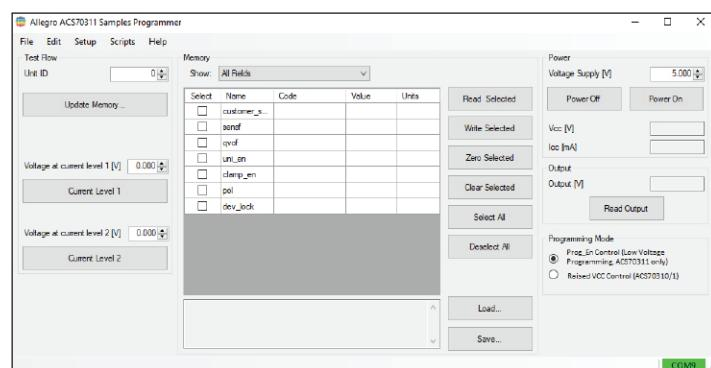

Figure 10: ACS70311 Programmer Application
2. Connect the other end of the USB communications cable to the USB port on the ASEK-30 chassis (the front panel of the ASEK-30 is shown in Figure 10).
When the programmer opens, a window appears as shown in Figure 10.